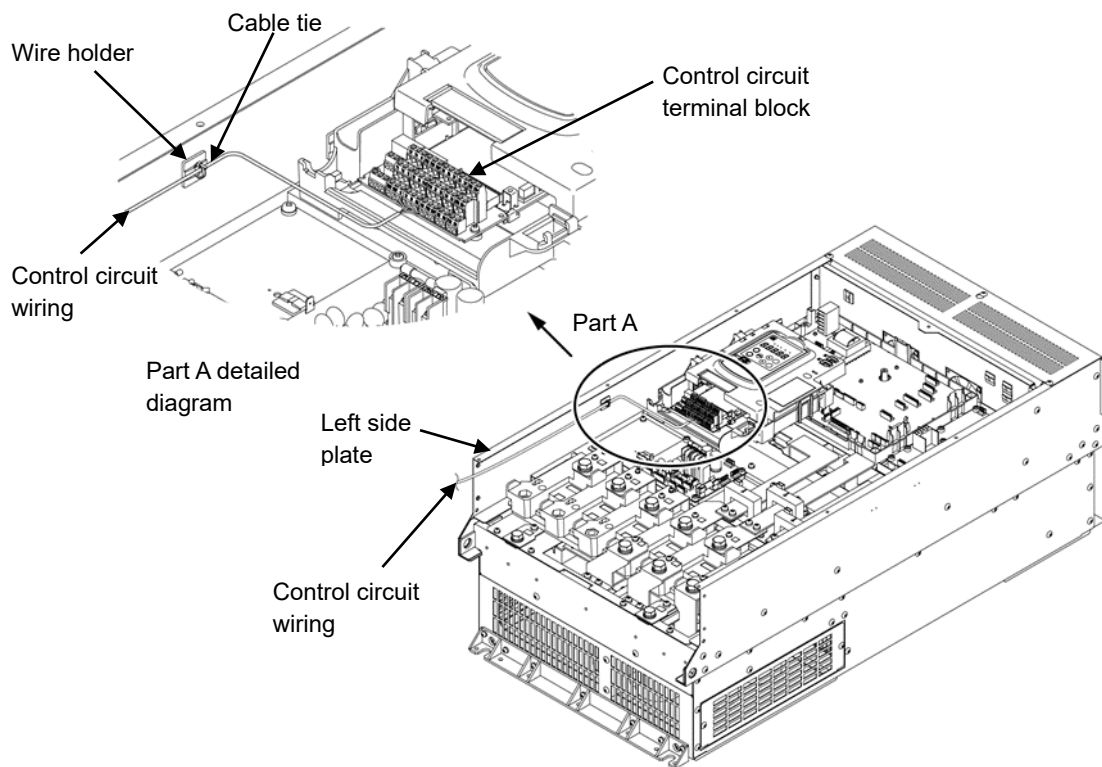

Fig. 2.2-13 Control circuit wiring route and securing locations
- (1) Run the wiring along the plate on the left side of the inverter as shown in Fig. 2.2-13.
- (2) Secure the wiring to wire holders with cable ties (INSULOK, etc.)